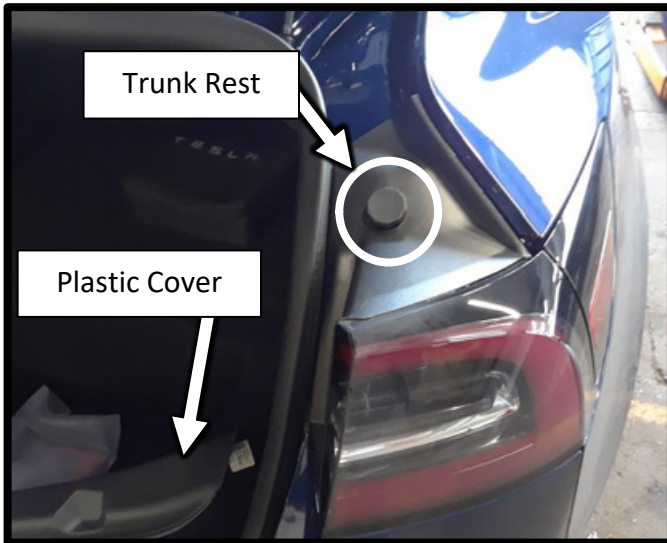

Figure 3.1 (Passenger Side)
- Open the trunk and remove the trunk rests as shown in figure 3.1. Pull out the middle plastic cover, it is best to give it a gentle tug from below.